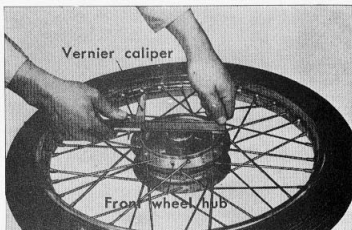

Figure 4-21. Measuring brake drum diameter
- (3) Check brake drum inside diameter. (Fig. 4-21)